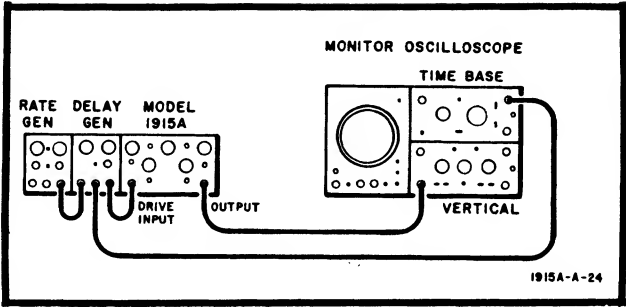

Figure 5-1. Amplitude Test Setup
- a. Connect equipment as shown in Figure 5-1.
- Connect equipment as shown in Figure 5-1.